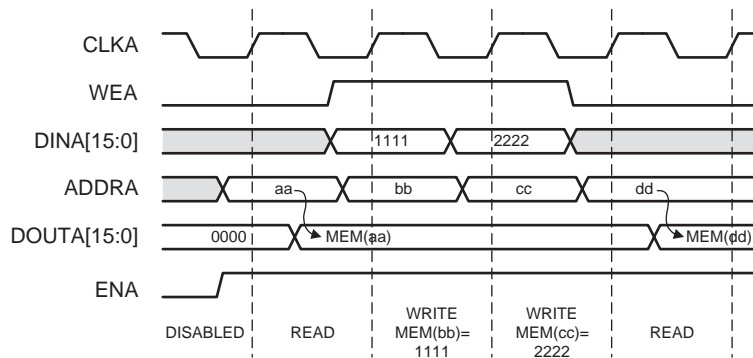

Figure 3-11: No Change Mode Example
- No Change Mode:** In NO_CHANGE mode, the output latches remain unchanged during a Write operation. As shown in Figure 3-11, the data output is still the previous Read data and is unaffected by a Write operation on the same port.